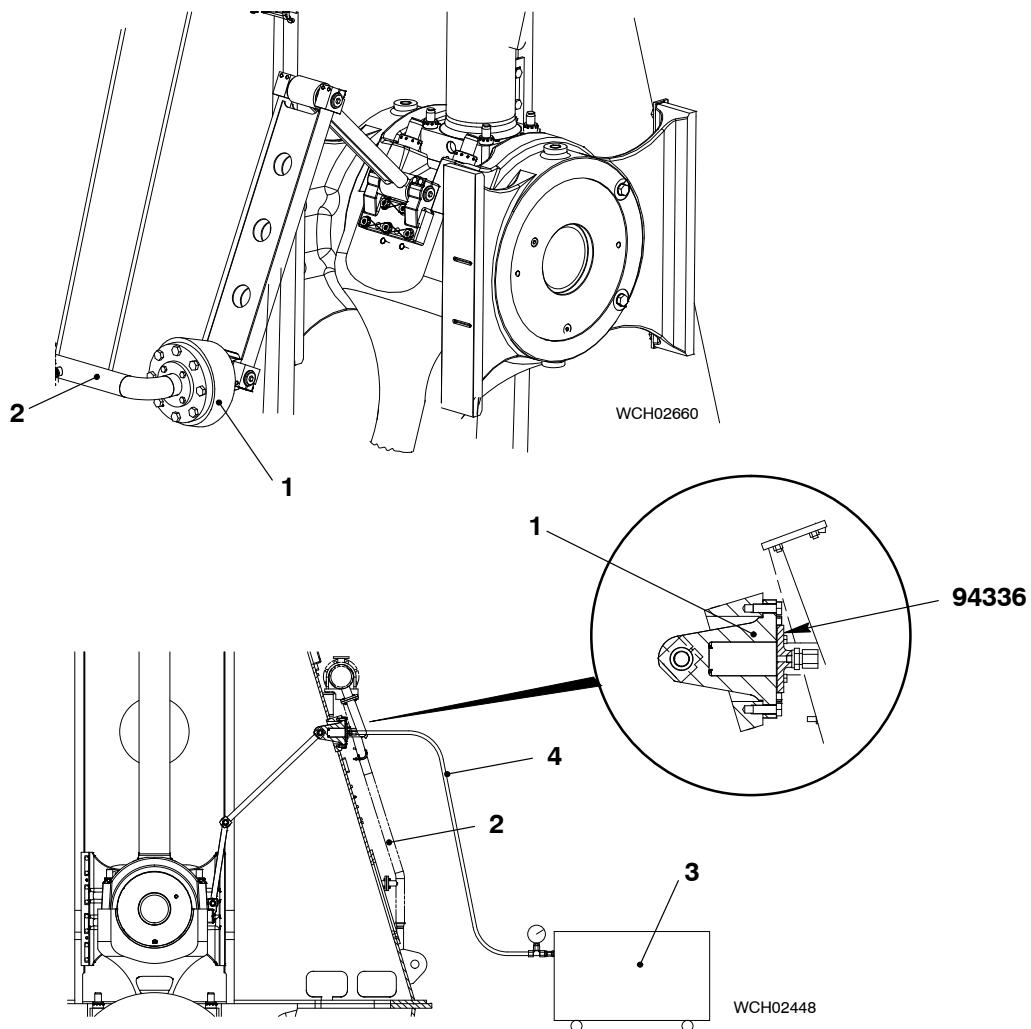

Fig. 12
- 1) Remove the oil inlet pipe (2, Fig. 12).
- 2) Attach the flange (94336) to the support (1).
- 3) Connect the hose (4) to the flange (94336).
- 4) Fill the lubricating pump (3) with steam-engine cylinder oil (see Table 1).
- 5) Operate the lubricating pump (3) until oil flows from the sides of the bearing.
- a) Make sure that the hose (4) has no pressure.
- b) Disconnect the hose (4) from the flange (94336).
- d) Install the oil inlet pipe (3) to the support (1).